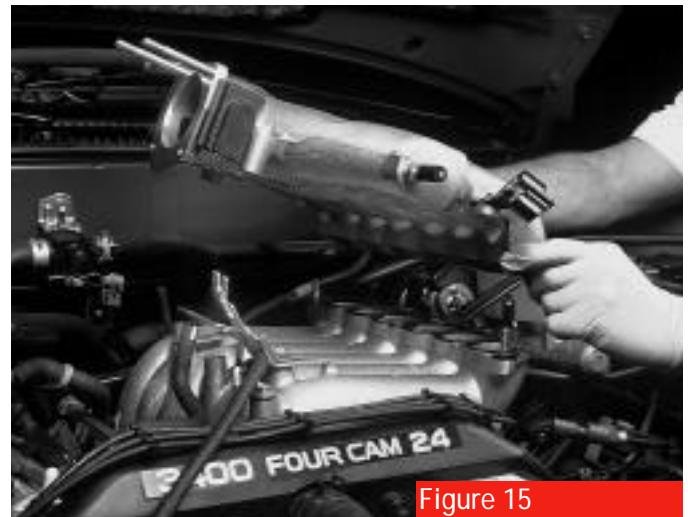

Figure 15
20. Remove the nuts and bolts from the upper half of the intake manifold and set it aside (**figure 15**).
NOTE: The gasket between the surge tank and the manifold (figure 15) is interchangeable for use as the supercharger's intake manifold gasket (see section B – 2, page 11).